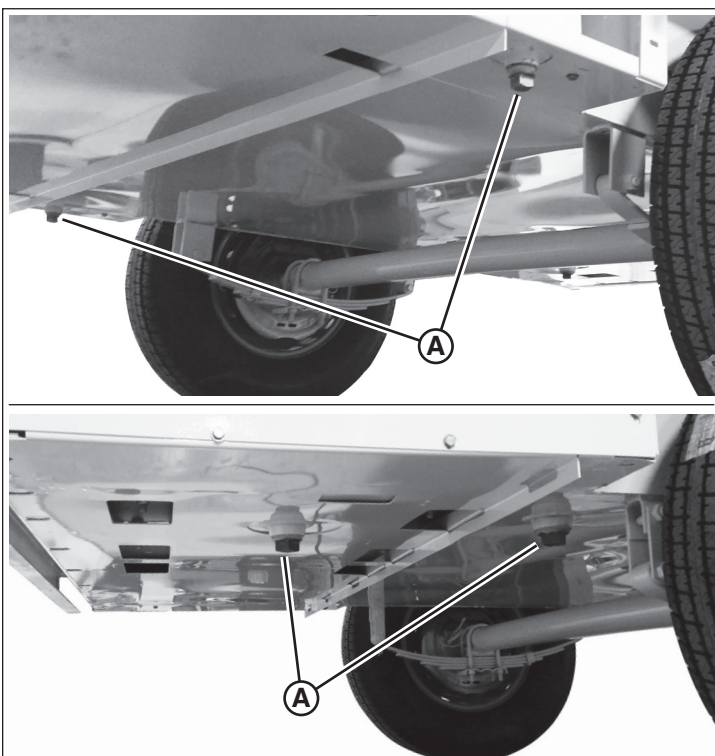

Figure 49
1. Position a suitable container beneath any of the four fluid containment drains (A, Figure 49), located beneath the unit toward the rear. See also ‘Features and Controls’.